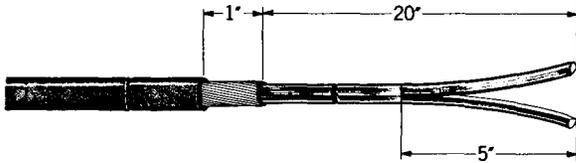

Fig. 6 – Preparation of D Underground Wire for D Cable Closure
2.14 To join D Underground Wire directly to a cable conductor in a D Cable Closure, prepare the wire as shown in Fig. 6.